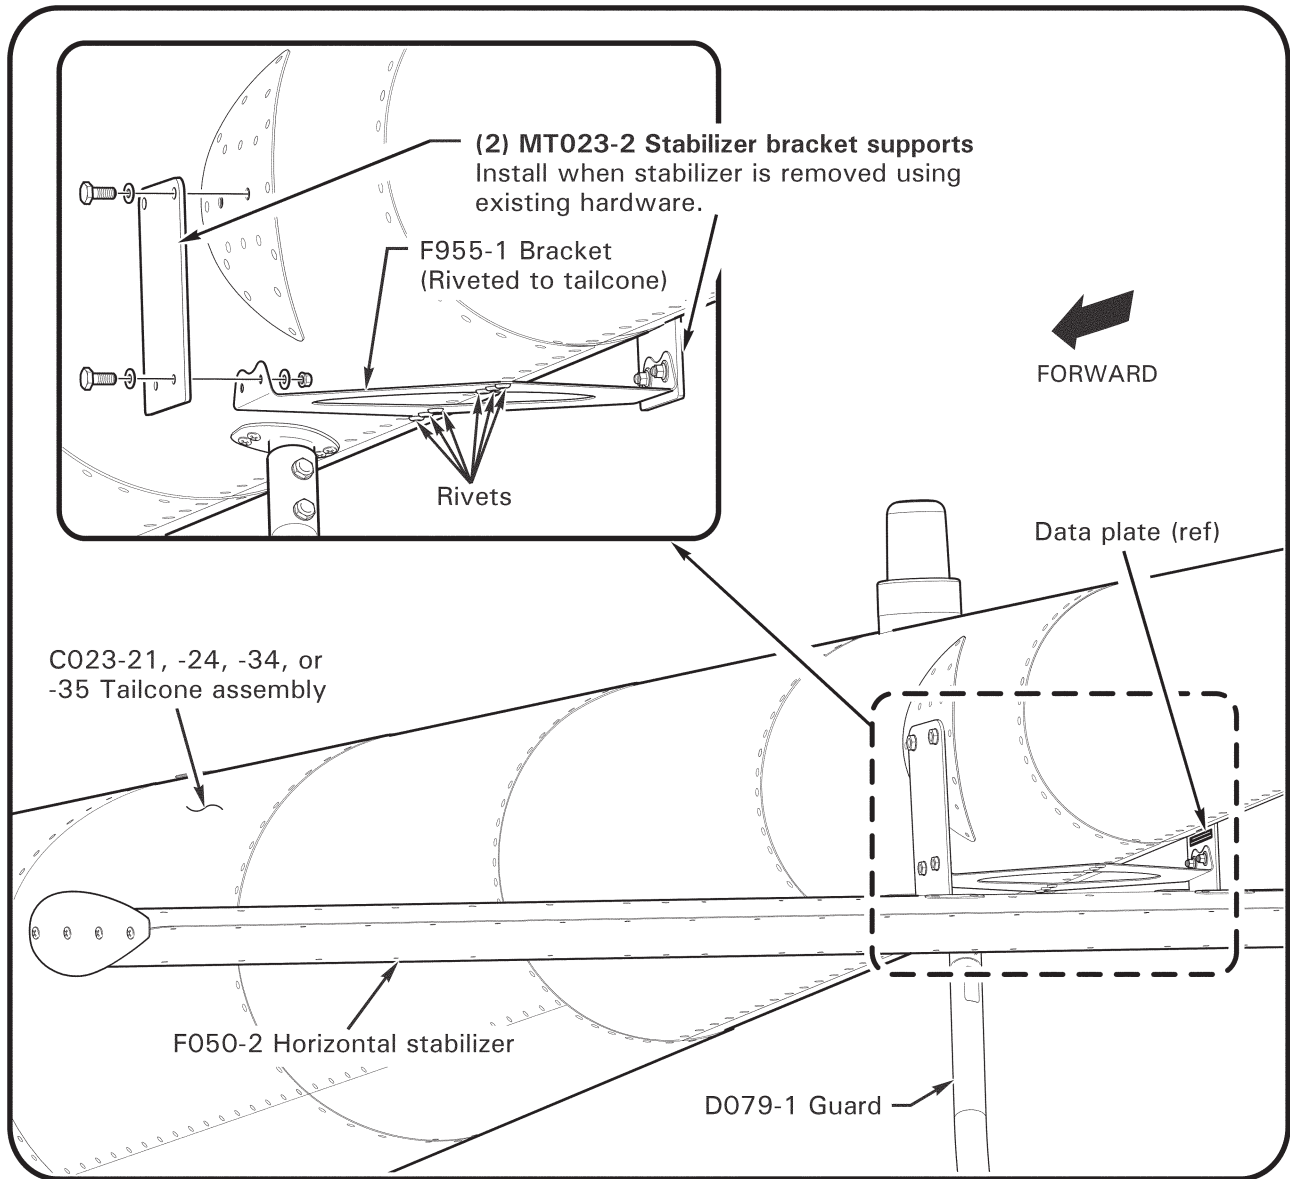

FIGURE 53-6 F050-2 HORIZONTAL STABILIZER ASSEMBLY
1. Refer to Figure 53-6. Remove hardware securing F050-2 horizontal stabilizer assembly to F955-1 bracket.